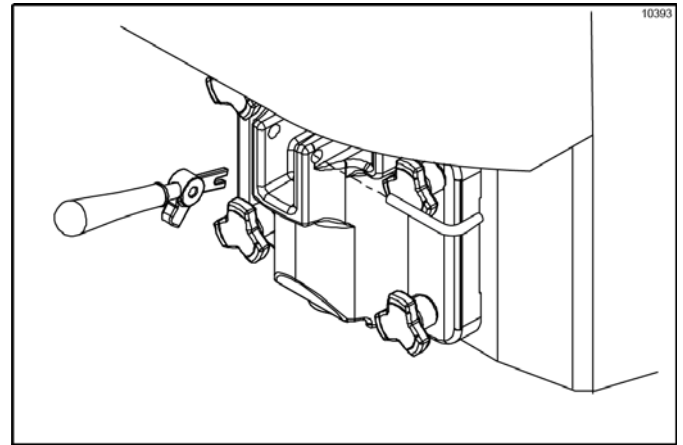

Figure 6-31
15. Install the draw handle. Slide the fork of the draw handle in the slot of the draw valve. Secure it with the pivot pin. (See Figure 6-31.)